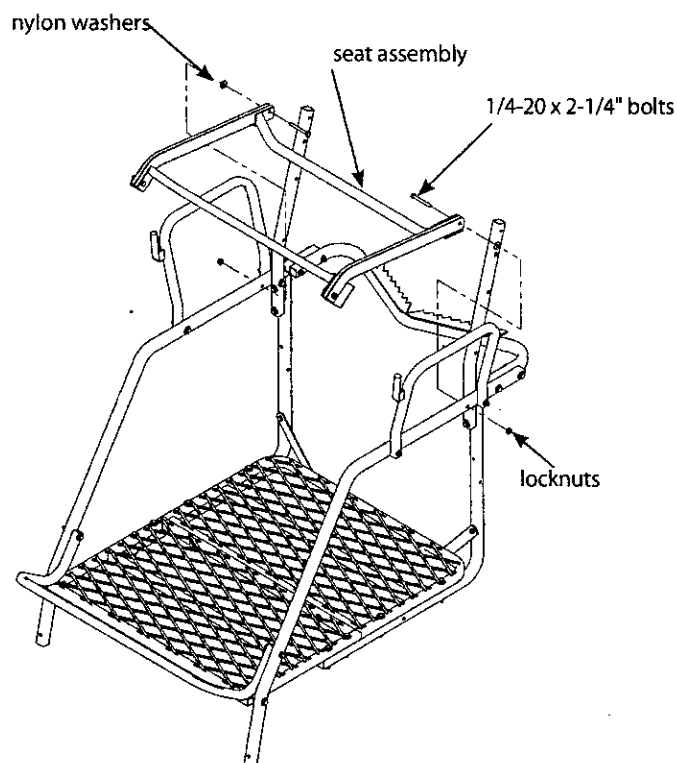

Figure 7
9. Remove the locknuts from the (2) 1/4-20 x 2-1/4" bolts that were previously attached to the rear of the seat assembly. Continue by attaching the assembled seat assembly to the ladder side rails using (2) provided 1/4-20 x 2-1/4" bolts, locknuts and nylon washers. **SEE FIGURE 7. Make sure all (4) angle brackets are fully cradling fabric rails.**